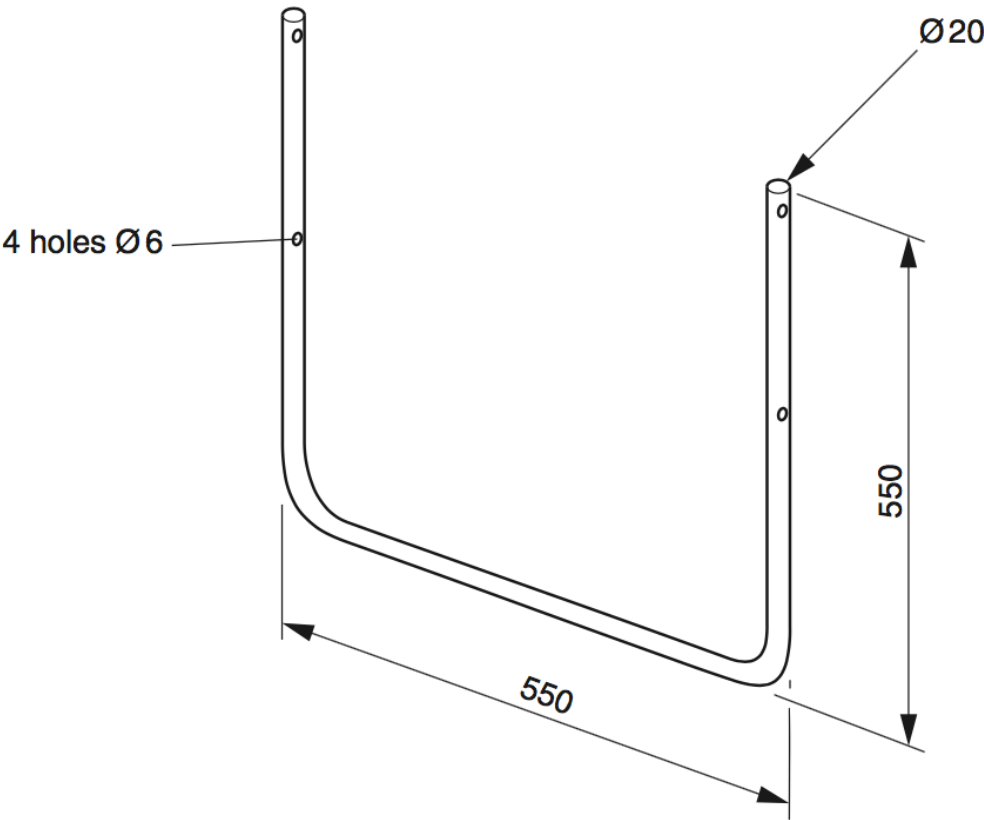

Fig. 7
Fig. 7 shows one of the legs from the picnic table.
- (e) (i) State a **suitable specific material** for the leg shown in Fig. 7.